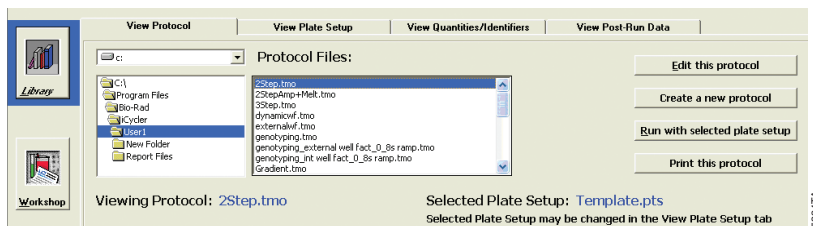

Figure 6. The “View Protocol” tab in the Library module.
3. Select the “View Protocol” tab (Figure 6).